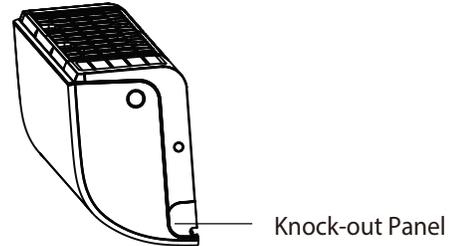

Fig. 16 – Knock-out Panel
2. If the wall hole is behind the unit, keep the knock-out panel in place. If the wall hole is to the side of the indoor unit, remove the plastic knock-out panel from that side of the unit (see Fig. 16). This creates a slot through which your piping can exit the unit. Use needle nose pliers if the plastic panel is too difficult to remove by hand.